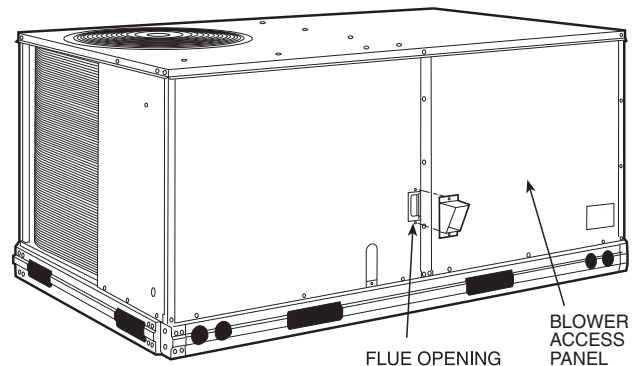
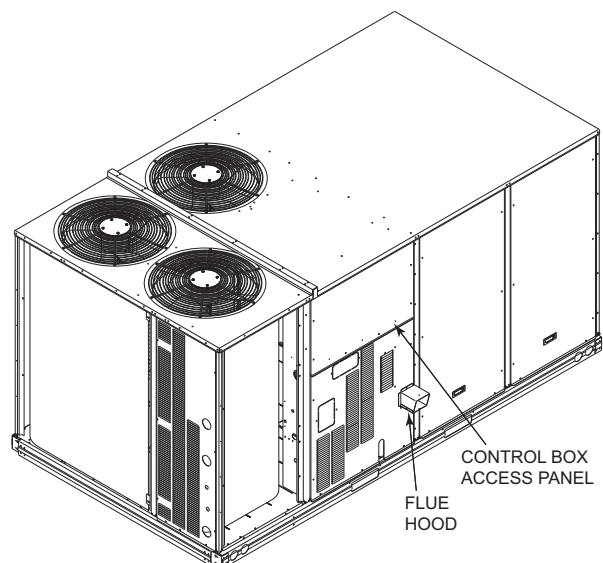

Fig. 23 — Flue Hood Details (Sizes 08-14)
Fig. 24 — Flue Hood Details (Size 16)
Step 9 — Install Flue Hood — Flue hood is shipped screwed to the basepan beside the burner compartment access panel. Remove from shipping location and using screws provided, install flue hood and screen in location shown in Fig. 23 for size 08-14 and Fig. 24 for size 16.